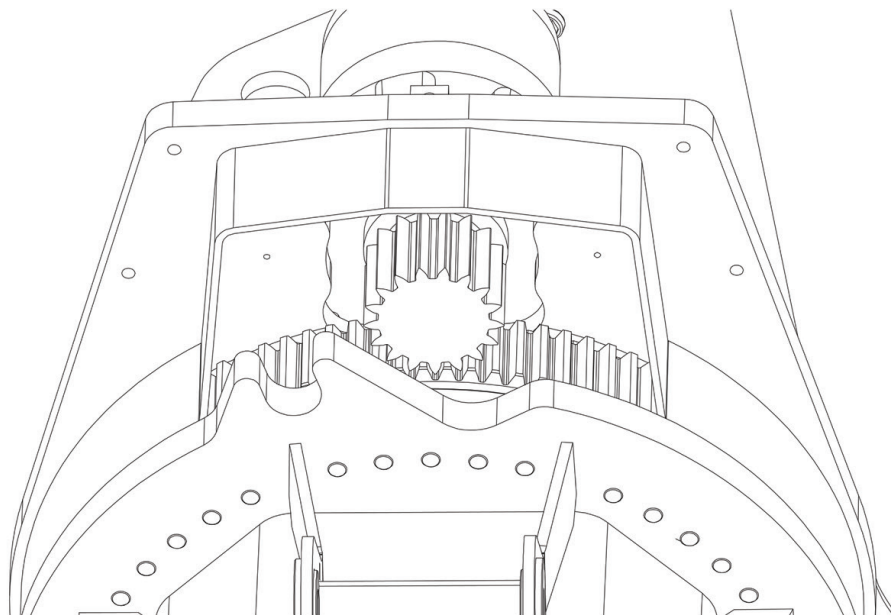

Figure 38 - Pinion gear backlash
1. Turn the loader swing to place the pinion gear in the zone shown in *Figure 38*, below.